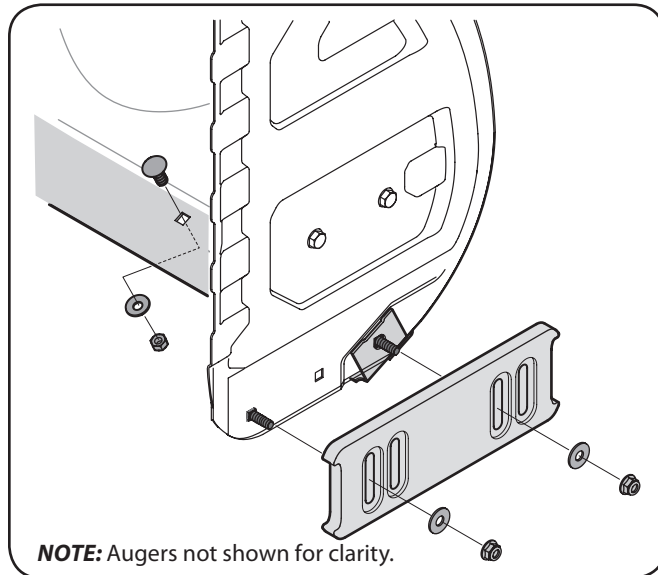

Figure 6-1
2. Reassemble the new skid shoes with the four carriage bolts (two on each side) and hex flange nuts. Refer to Figure 6-1.
2. Reassemble new shave plate, making sure heads of carriage bolts are to the inside of housing. Tighten securely. Refer to Figure 6-1.